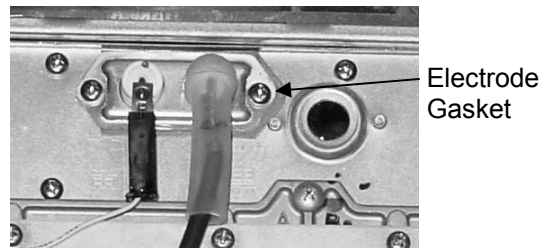

Figure 6
22. Replace the electrode gasket. (Figure 6)